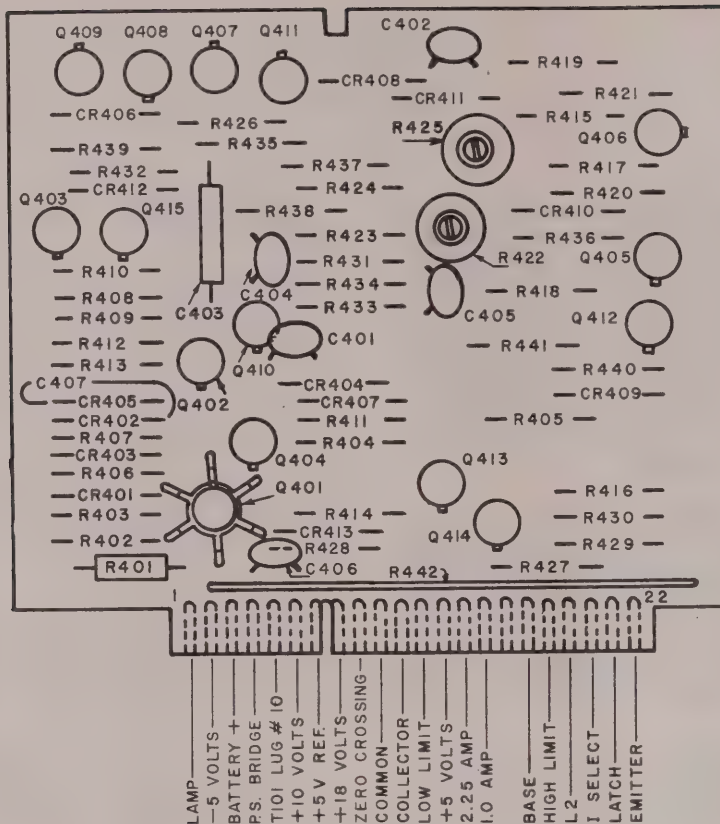

Figure 5-1. Component Locations; Control Board
(3) Set the POWER/ON switch to ON.
(4) Connect a general purpose charging cable to the channel to be calibrated and short the cable clips together.
(5) Temporarily short circuit the base to emitter of Q404. See figures 5-1 and 5-2.
(6) Set the range switch, unit volts selector switch, and tenth volts selector switch on the channel to be calibrated for a cutoff voltage of 00.0 volts.